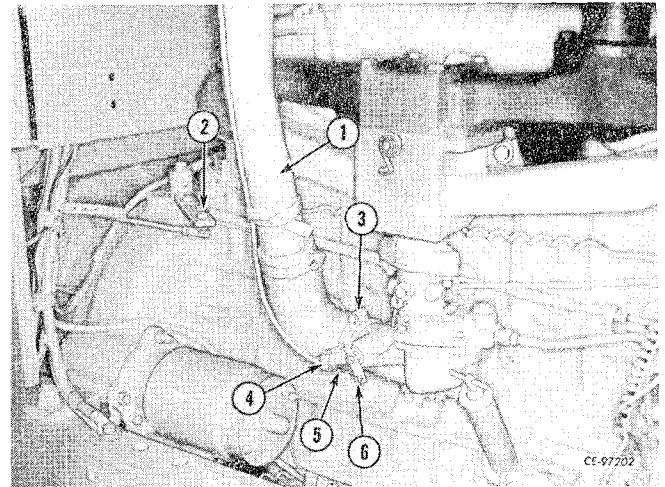

Figure 2-2
Loosen choke cable clamps (4 and 6, Fig. 2-2) and pull cable loose from tube (1).
Position tube assembly (1, Fig. 2-2) between air cleaner and carburetor position, and tighten hose clamps (3). Install choke cable (5) to carburetor and tighten cap screws (4, 6). Connect accelerator linkage to throttle arm and install and tighten nut (2).